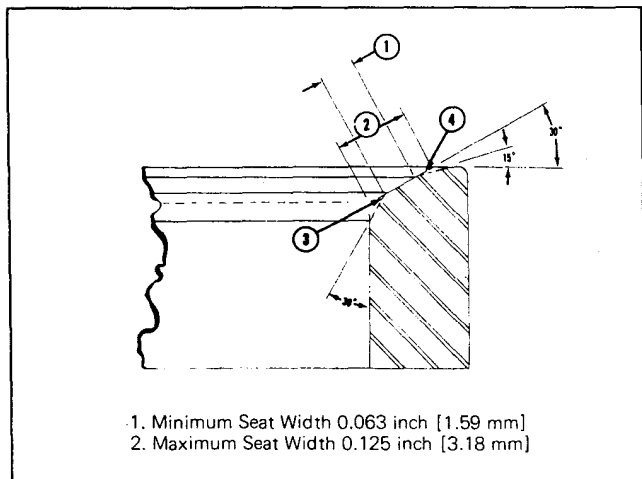

Fig. 2-7, (N10228). Valve seat insert — cross section
2. If seat area width (2, Fig. 2-7) exceeds 0.125 inch [3.18 mm] at any point and cannot be narrowed sufficiently (1) during regrind, mark for replacement.